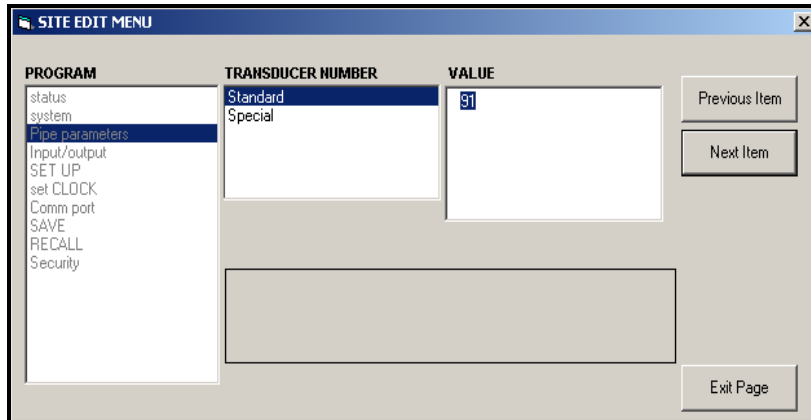

Figure 38: Pipe Parameters Option in the Site Edit Menu
- a. Highlight and double-click on the desired option in the left pane. Figure 38 below shows the first entry (Transducer Number) in the *Pipe parameters* option. The title above the center pane lists the current entry, while the center pane displays the available selections for that entry.